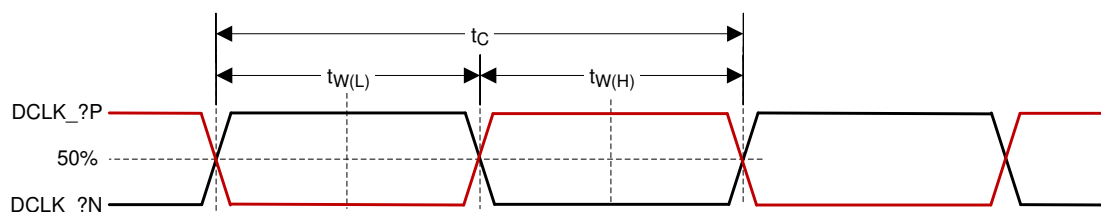

Figure 6-13. HSSI CLK Characteristics
- (6) See Figure 6-13 for pulse duration high and low and cycle time for HSSI.